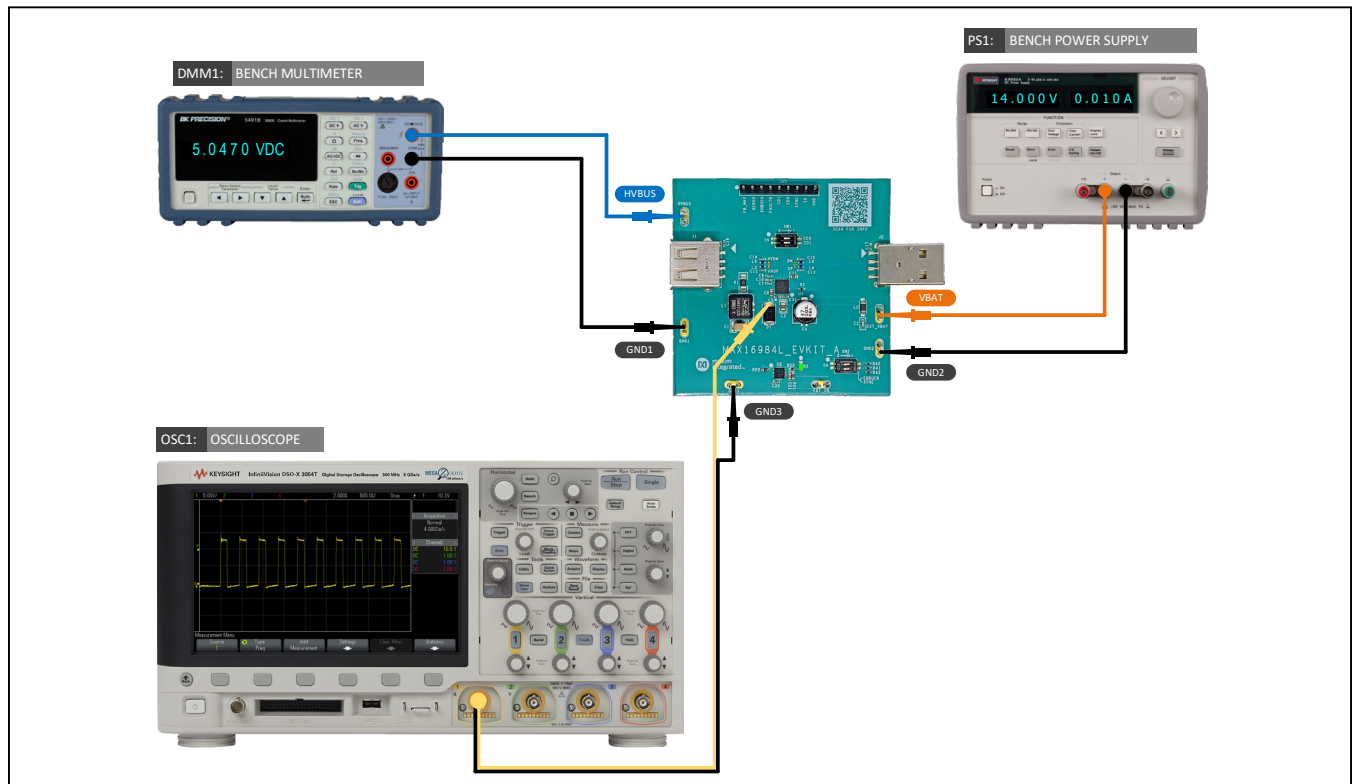

Figure 6. Test Setup for Buck FORCED PWM Mode
- 2) Setup test equipment as shown in Figure 6, with PS1 DISABLED.